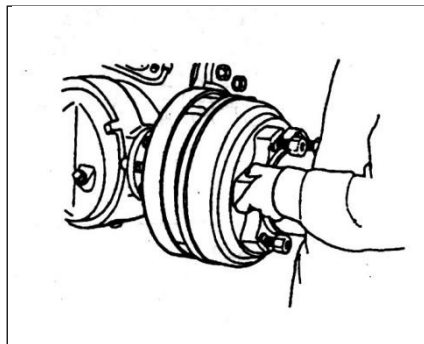

Fig.1-4
- (1) Raise the front end of forklift truck and support frame with wooden blocks.
- (2) Remove front wheel and axle shaft.
- (3) Remove lock nuts, lock washers, snap ring, felt ring, adjusting nut. Use special tools.
- (4) Remove brake drum (refer to Fig.1-4);